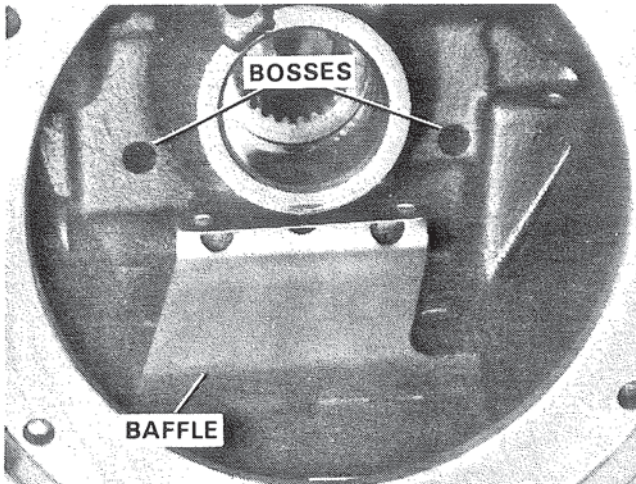

Figure 40. Installing Oil Baffle.
1. Place oil baffle inside transmission case with curved portion below bosses in case. Figure 40.